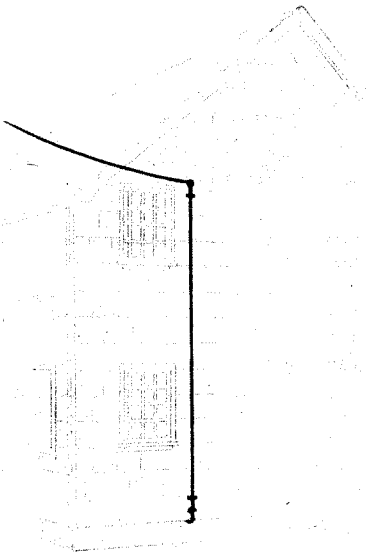

Fig. 5 — Typical Drop Run
- Locate preferably on the rear and side walls of a building (see Fig. 5).